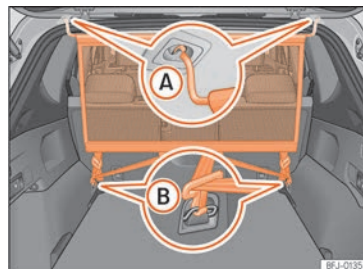

Fig. 129 Net partition fitted.
- Secure the net partition in the left housing of the roof » **Fig. 129 A**. Make sure to move the cross rod down beyond the upper position.
- Hook in the net partition on the rear right-hand side roof housing by pressing on the rod »» Fig. 129 A.
- Secure two hooks of the partition net to the fastening rings of the boot »» Fig. 129 B and tighten the straps firmly.
- Release the net hooks from the fastening rings »» Fig. 129 B.
- Unhook the net partition on the right-hand side roof support »» Fig. 129 A by pressing on the rod.